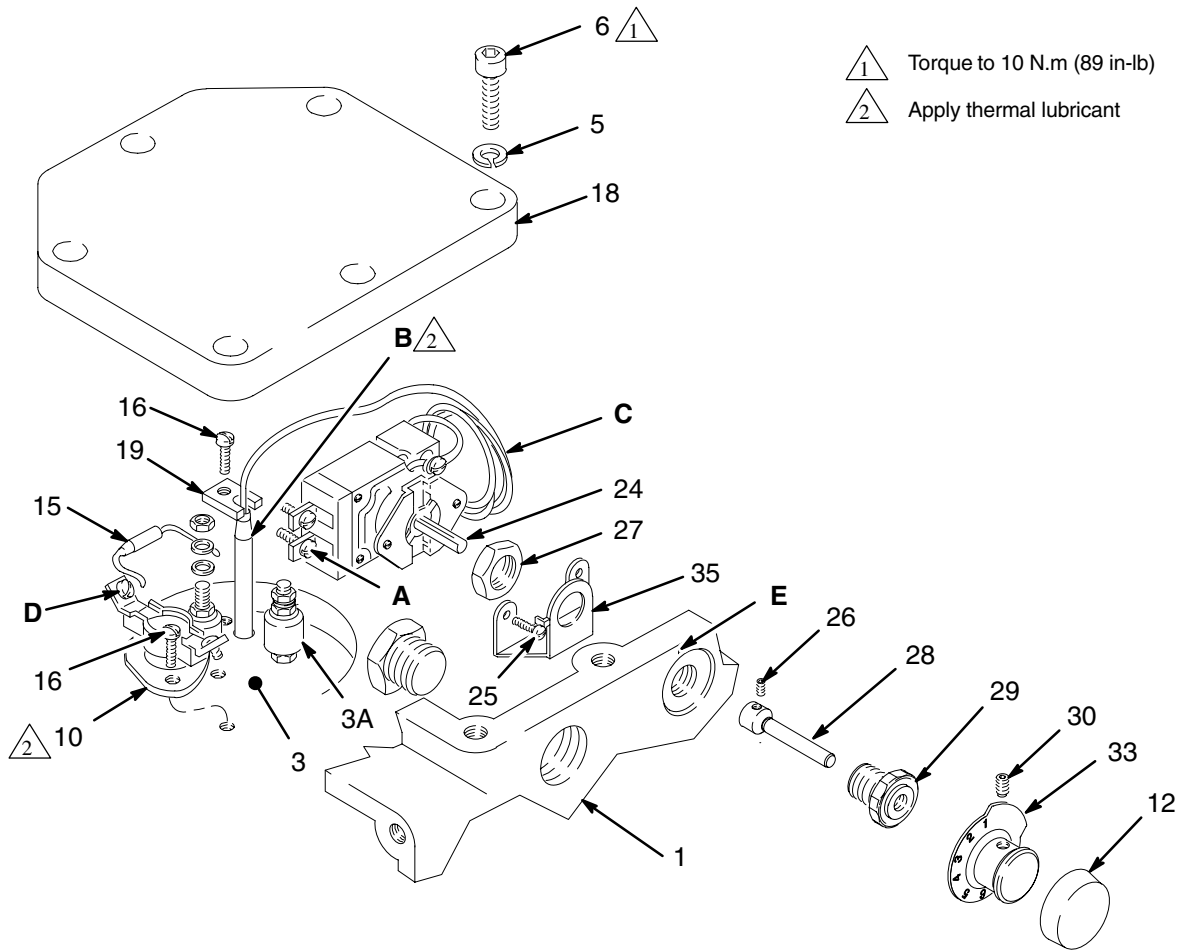

Fig. 12
Thermostat Switch and Probe (See Fig. 12)
8. Liberally apply thermal lubricant (see **Accessories**) to the probe (B) of the new thermostat. Loop the capillary tube (C) several times as shown in Fig. 12. Insert the probe in the heater block.
Backup Thermostat (See Fig. 12)
Heater Limiter (See Figs. 12 and 13)